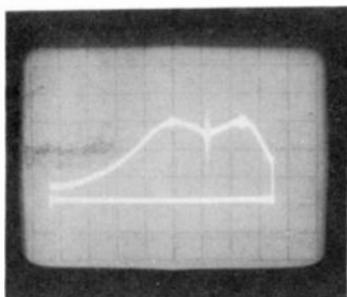

Fig. 14-33. The 4.08-MHz marker is close to the left edge; 3.58 MHz is still in the center.
To continue with the alignment (Fig. 14-33), the 4.08-MHz marker is on the left slope, the 3.58-MHz marker is in the center; the 3.08-MHz lower sideband marker is turned off. This looks pretty good, and is within the left downward slope; in this instance, toward a lower frequency. We do the same thing for
19. A chroma alignment (Fig. 14-33) can be best done with all three markers visible simultaneously?